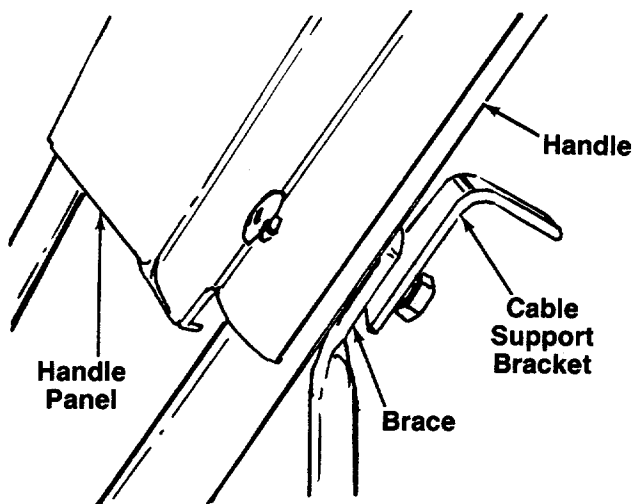

FIGURE 11.
13. Place carriage bolt (A) through the handle panel, handle, handle brace and cable support bracket on the lower left hand side of handle panel as shown in figure 11. Use the bottom hole in the cable support bracket. Secure with lock washer and hex nut, finger tight only.